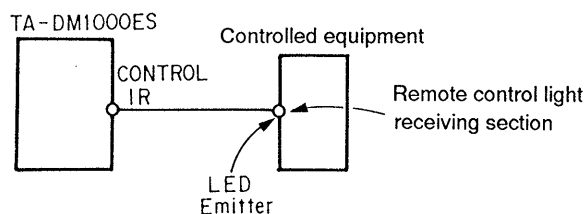

Fig. 1.
1. Connect the equipments. (Connect the LED emitter with the audio/video equipment which the customer uses.) Refer to Fig. 1.